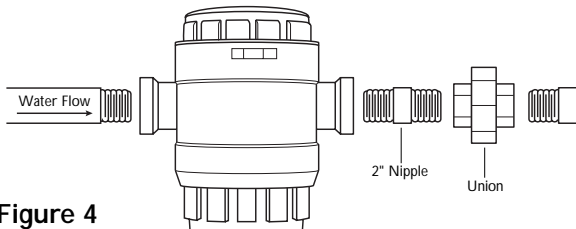

Figure 4
- Apply teflon tape three turns around the threads of the pipe coming from the water meter. Using the "IN" port (see Figure 4), hand screw the filter onto the water pipe until it is tight. Removing the tank will make this easier. DO NOT OVERTIGHTEN.
- Wrap three turns of teflon tape around each end of the 2" nipple and screw one end into the "OUT" port on the filter (see Figure 4). Screw the union onto the other end of the nipple.